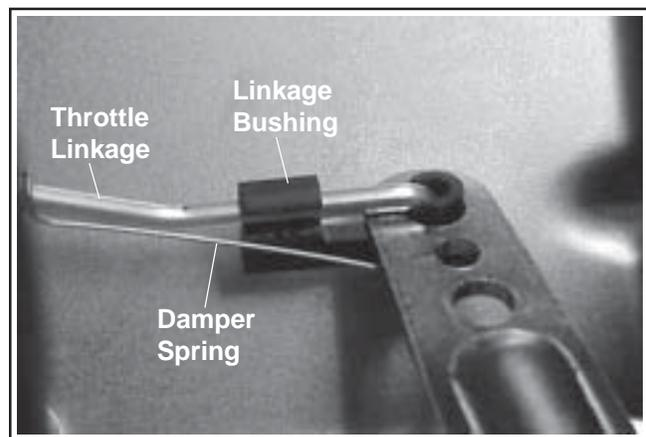

Figure 5B-37. Throttle Linkage/Governor Lever Connection.
1. Unsnap the plastic linkage bushing attaching the throttle linkage to the governor lever. See Figure 5B-37. Unhook the damper spring from the lever, separate the linkage from the bushing, and remove the bushing from the lever. Mark the hole position and unhook the governor spring from the governor lever.
2. Check if the engine has a high-speed throttle stop screw installed in the manifold casting boss. See Figure 5B-38.